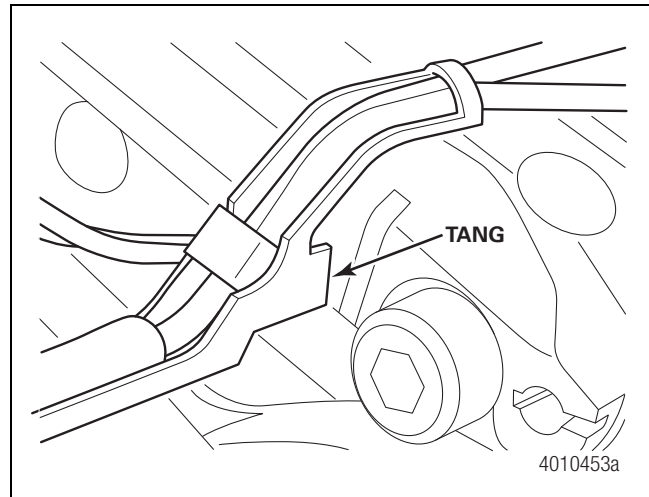

Figure 9.8
2. Position the PWWI assembly into the brake and engage the tang into the housing. Figure 9.8.